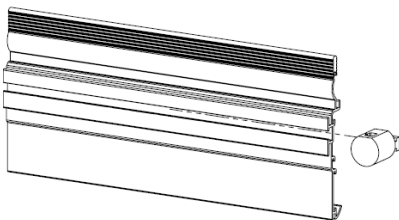
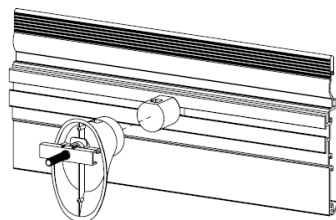
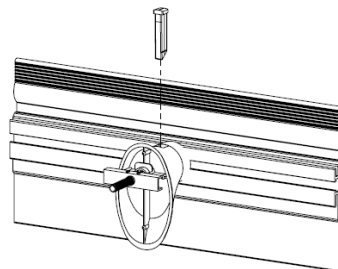

Figure 9
Figure 10
Figure 11
STEP 7. Insert the required amount of locking brackets for the run into the channel on the back of the aluminum retainer with the flat side of the locking bracket facing up (see Page 4, Figure 9). Align the locking brackets with the standoffs along the run, then lift the handrail assembly into place, pushing the locking brackets into the standoffs (see Page 4, Figure 10). Insert and push down on the locking pin until it is flush with the top of the standoff to lock the handrail assembly into place (see Page 4, Figure 11). Should you need to remove the handrail for any reason use a screw driver at the bottom of the standoff to push the clip up unsnapping the mounting bracket from the standoff.